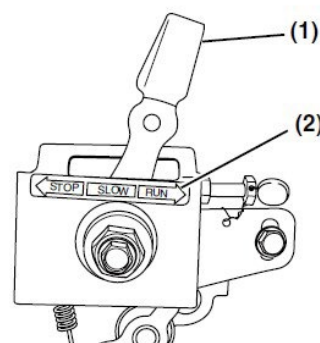

Figure 2
1. If your engine speed control is similar to **Figure 2** slide the engine speed control lever (**Figure 2, (1)**) to the RUN position (**Figure 2, (2)**).